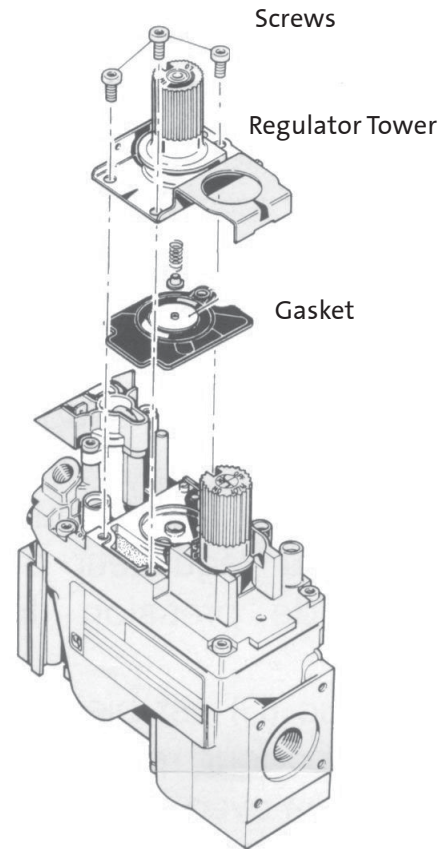

Figure 14. Regulator tower and gasket.
12. Replace the Variable Regulator: Using a Torx T-20 screwdriver, remove the three specialty screws from the front of the valve regulator. See Fig. 14.
15. Reinstall the Burner Tube (13, pg. 22), Air Divider (15), Log Support (14), and Log Set. **WHEN REINSTALLING THE BURNER TUBE, BE SURE THE TUBE IS PULLED FORWARD IN THE MOUNTING HOLES. SECURE WITH THE TWO 1/4" SCREWS.**